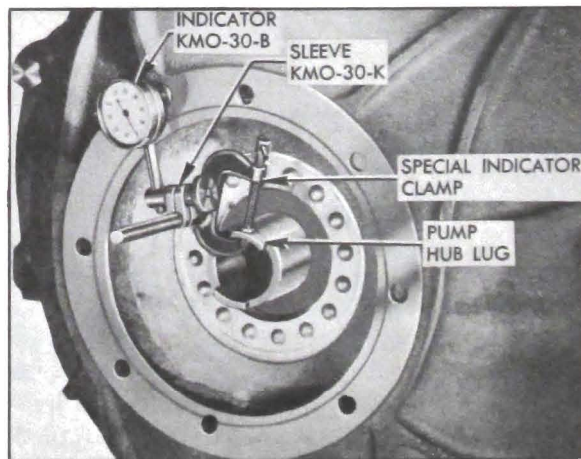

Figure 5-59—Checking Run-Out of Rear Face of Bell Housing
5. Attach the special dial indicator clamp to the oil pump driving lug on rear end of converter pump hub. CAUTION: Do not clamp to bearing surface on hub. Mount Dial Indicator KMO-30-B to bear against rear face of bell housing at a radius of $3\frac{3}{4}$ ". See figure 5-59.
1. Place front pump delivery check valve spring in body with large end down and place check valve on spring with ridged side up. See figure 5-59.